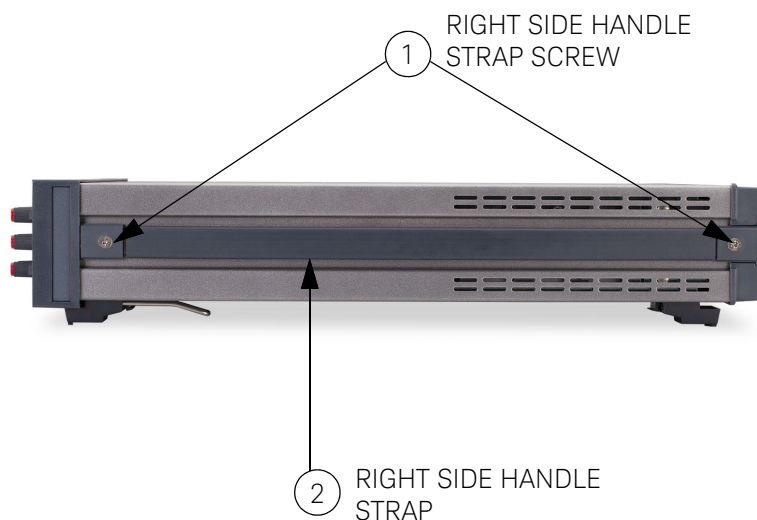

Figure C-1 3458A right side
- 3** Refer to **Figure C-1**. Turn the instrument so its right side faces you (as seen from the front).
- 9 Refer to Figure C-1. Turn the instrument so its right side faces you.